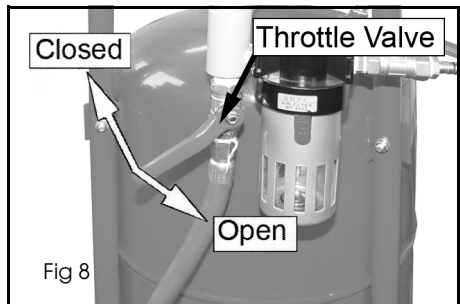

Fig 8
4. Close the air supply valve by turning it to the closed position, see Fig 8.